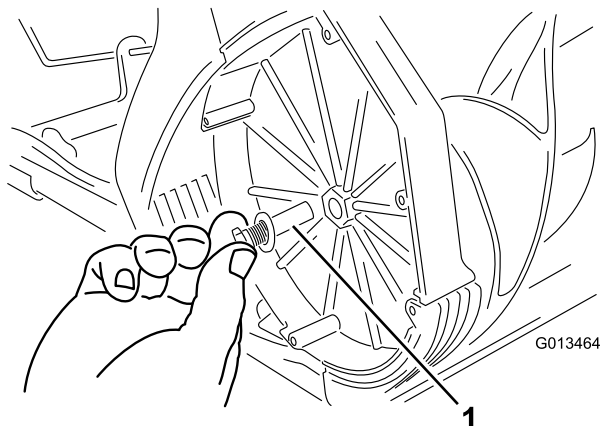

Figure 16
2. Remove the rotor pin (Figure 16).